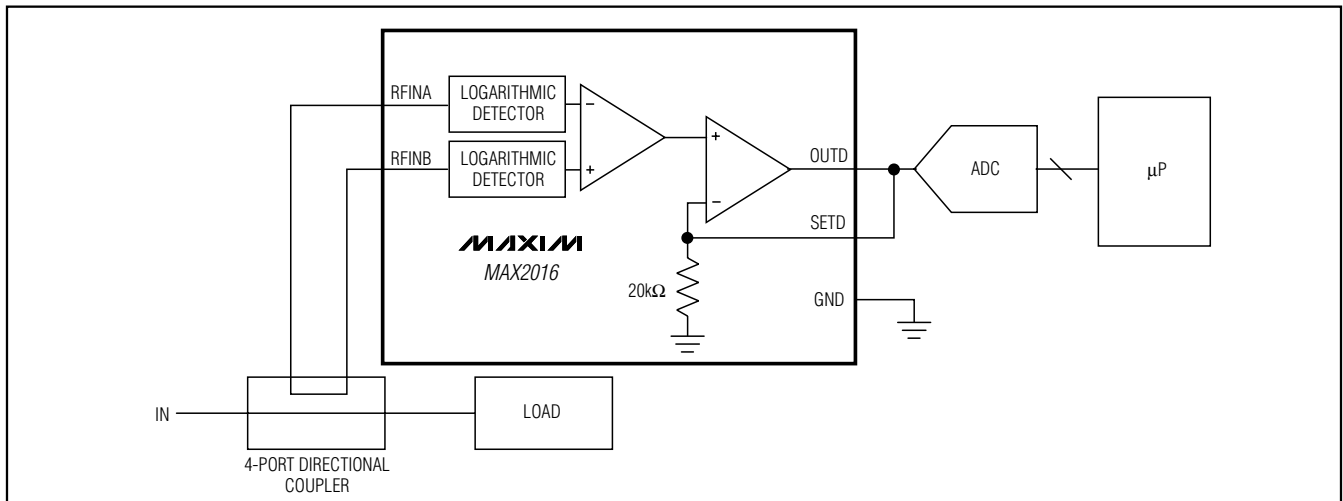

Figure 2. Measuring Return Loss and VSWR of a Given Load
In Figure 2, the two logarithmic amplifiers measure the incident and the reflected power levels to produce two proportional output voltages at OUTA and OUTB. Since OUTD is a DC voltage proportional to the difference of OUTA and OUTB, return loss (RL) and VSWR can be easily calculated within a microprocessor using the following relationships: